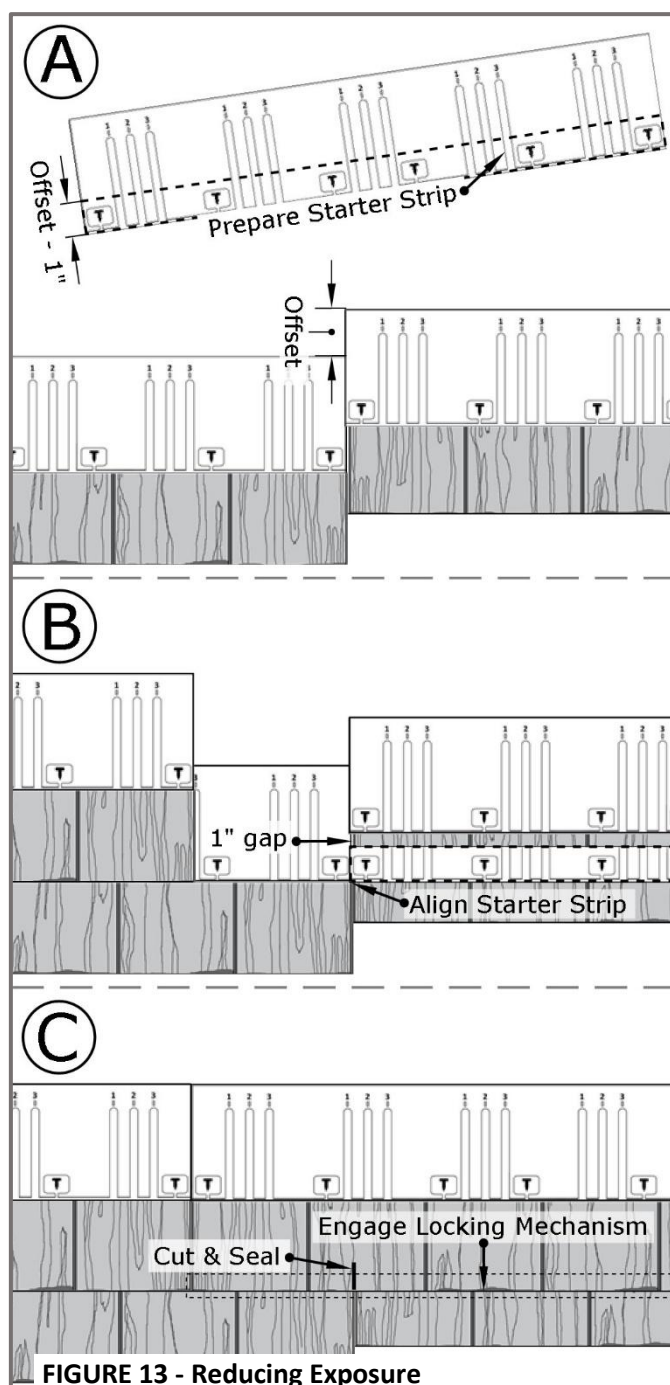

FIGURE 13 - Reducing Exposure
- Continue installing shingles up the roof locking each front edge in place. See **Figure 13**.